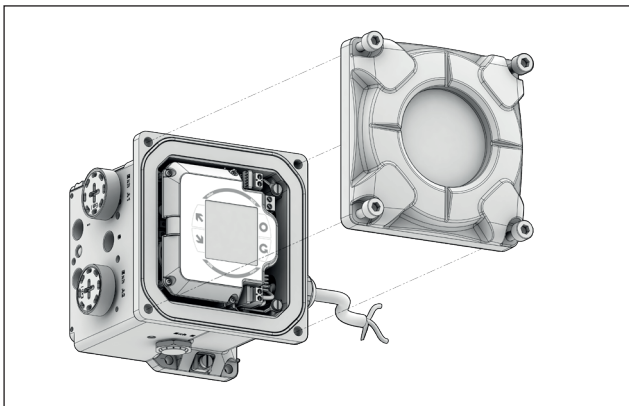
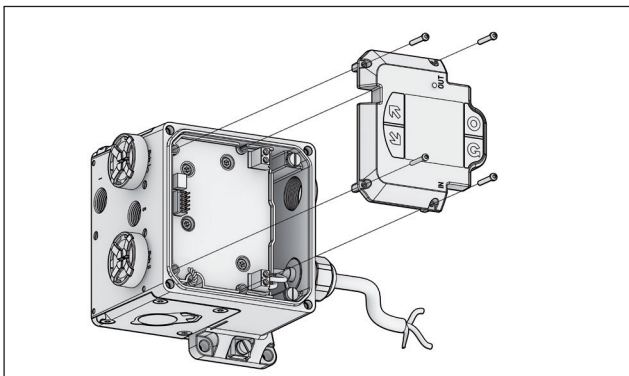

Fig. 91. NDX_511_ e NDX_512_
Fig. 92. NDX1510_
- Solte os parafusos do visor e remova o visor. (Fig. 91, Fig. 92)